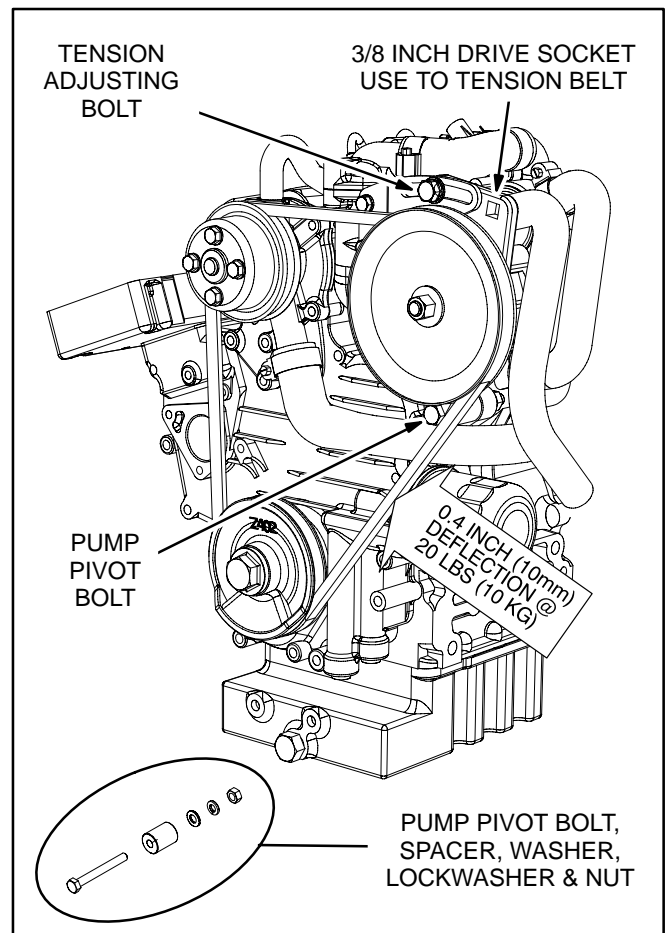

FIGURE 3-7. ADJUSTING V-BELT TENSION
Referring to Figures 3-7 and 3-8, readjust belt tension as follows:
2. Remove the front and top access doors. If work space is limited, remove the side panel (Figure 3-8) to be able to hold the nut on the pump pivot bolt (Figure 3-7) with an open-end wrench while loosening the bolt.